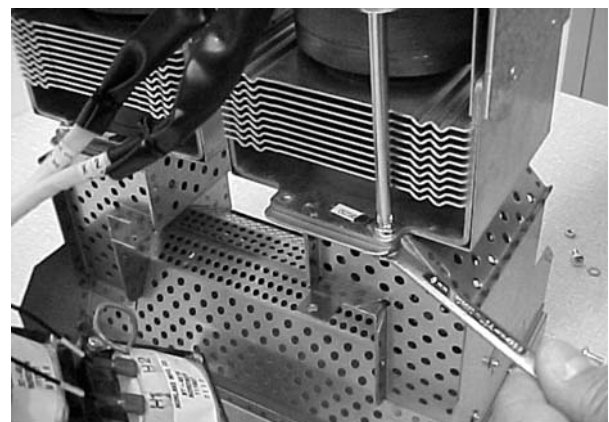

Figure 4-19 Remove the Magnetron
4. See Figure 4-19. Remove the four screws, washers and nuts that secure the magnetron to the lamphead base. Remove the magnetron.